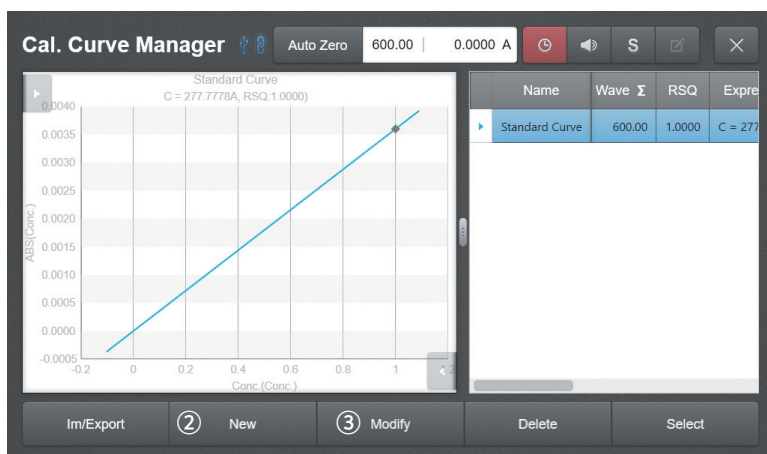

Fig. 4.13
2. [Fig. 4.13] Standard curve mode will be displayed if ② **New** (creating a new standard curve) or ③ **Modify** (modifying an existing curve) is selected on the Calibration Curve Manager screen.